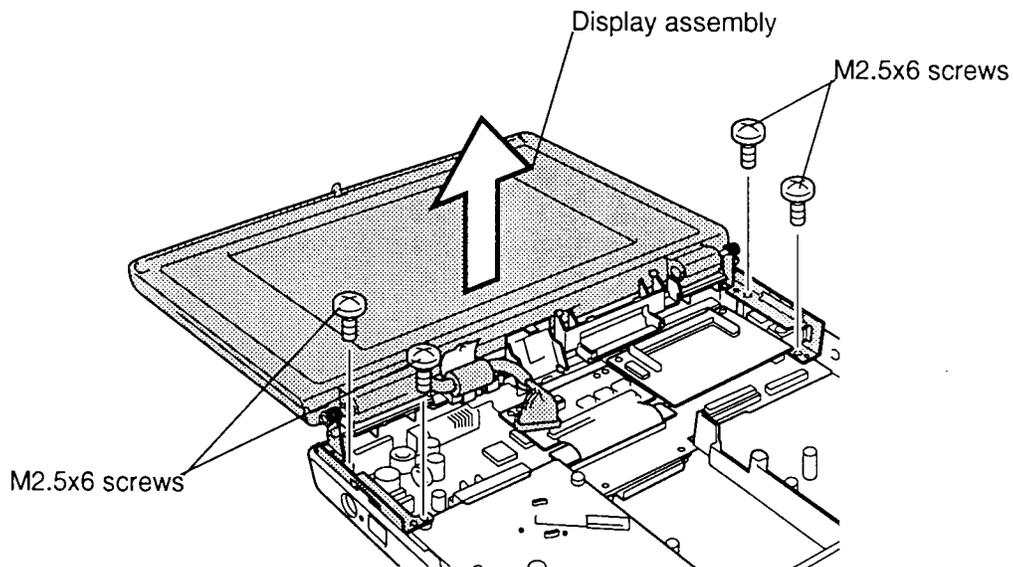

Figure 4-23 Removing the display assembly
7. Remove the **four M2.5x6 screws** on the system unit, then lift off the **display assembly** (figure 4-23).
1. Secure the **four M2.5x6 screws** on the display hinges to secure the **display assembly** (figure 4-23).